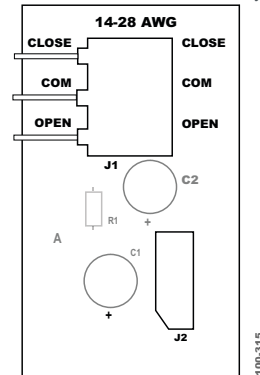

Figure 5. Typical Wiring of 3-Wire Floating Non-Spring Return Actuator
1. Remove the cover from the actuator, then connect the power and control wiring to the terminal block (Figures 5, 6, 7).